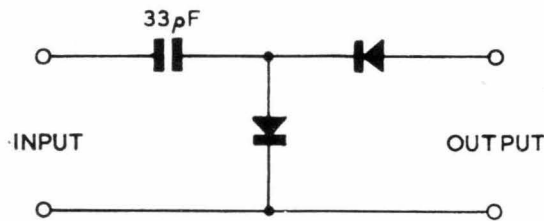

FIG. 4: Peak-to-Peak Detector.
- (1) Inject 5.5 Mc/s. at approximately 100 mV between the junction L28 and L29 and earth (disconnecting the grid peaking choke, L28).
- (2) Connect the input of the peak-to-peak detector illustrated (Fig. 4) to CRT